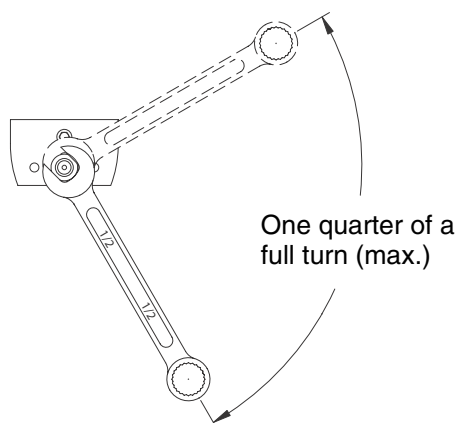

FIG. 8. Tighten Check Valve Retainer
9. Place check valve assembly in check valve retainer and thread into side block finger tight. Use a 1/2 in. wrench to tighten retainer 1/4 turn and **no more**. See FIG. 8.